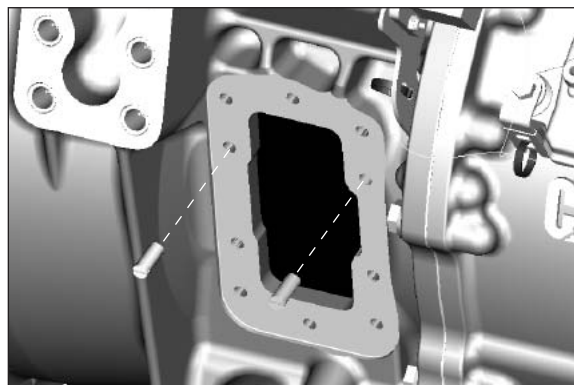

Fig. 3
3. Using a screwdriver, install the guide pins until they bottom out (**Fig. 3**) (see Page 39).